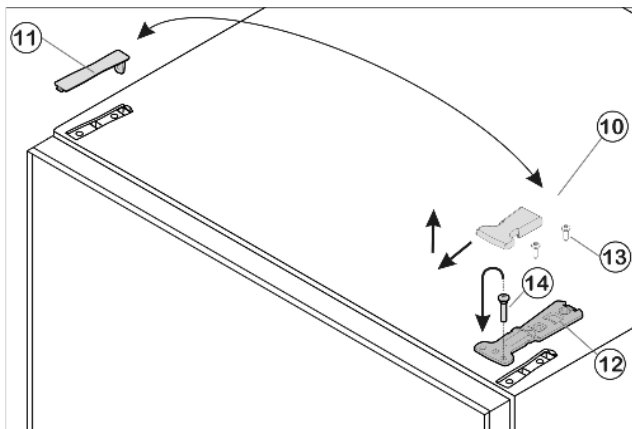

Fig. 31
- ▶ Pull cover Fig. 31 (10) forward and then upwards to remove.
- ▶ Lift off cover Fig. 31 (11).
- ▶ Unscrew upper bearing bracket Fig. 31 (12) (2 x Torx 25) Fig. 31 (13) and pull it upwards to remove.
- ▶ Move bearing pin Fig. 31 (14) in upper bearing bracket to other side Fig. 31 (12).
- ▶ Insert the upper bearing bracket Fig. 31 (12) on the new hinge side into the door.
- ▶ Secure upper bearing bracket Fig. 31 (12) (2 x Torx 25) Fig. 31 (13). Make preliminary holes (optional) or use a cordless screwdriver.
- ▶ Snap both cover Fig. 31 (10) and cover Fig. 31 (11) into place on the opposite side.